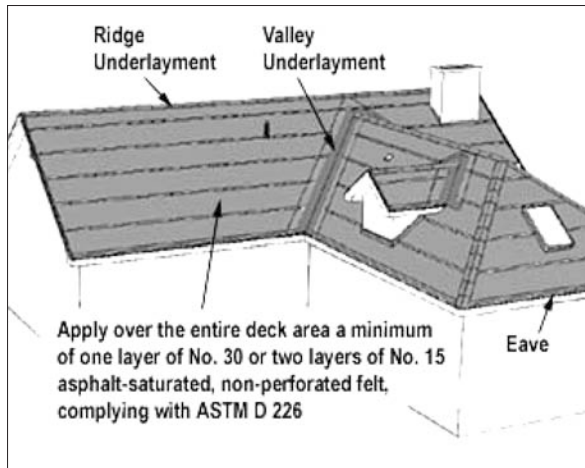
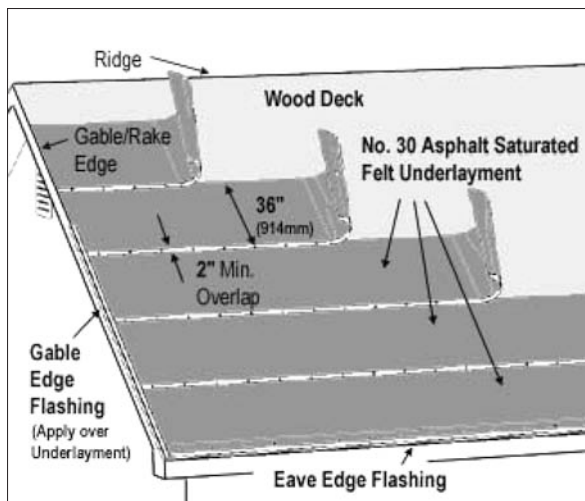

FIGURE 1-2 Field Underlayments
FIGURE 1-3 Underlayment Layout
1. Apply full width underlayments horizontally starting at the eave, with a minimum 2" (50 mm) overlap for No. 30 felt and a 19" overlap of the preceding layer for layers of No. 15 felt. *See Figure 1-2 and Figure 1-3.*